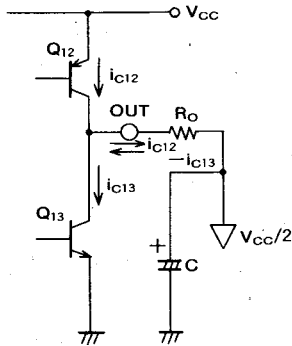

Fig. 4 EQUIVALENT CIRCUIT OF OUTPUT STAGE
The M5222 has a floating-type output stage with the collectors of Q_{12} and Q_{13} joined as shown in FIG. 4. Here, the difference of the combined currents will become the output current that will flow through the load. Note that it is necessary to set the DC potential of this output pin by externally-connected resistor R_O and that it is generally DC-connected to the $V_{CC}/2$ pin (or to pin (3)).